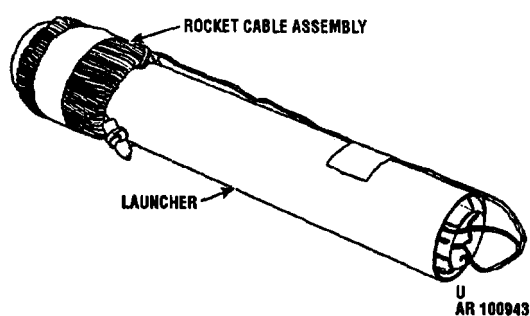

Figure 2-65. Launcher with cable assembly attached to rocket.
- (7) Remove tape and unwind cable assembly (fig. 2-65).
- (8) Position rocket cable assembly for connecting to firing device, approximately same distance as between launcher and target impact point.